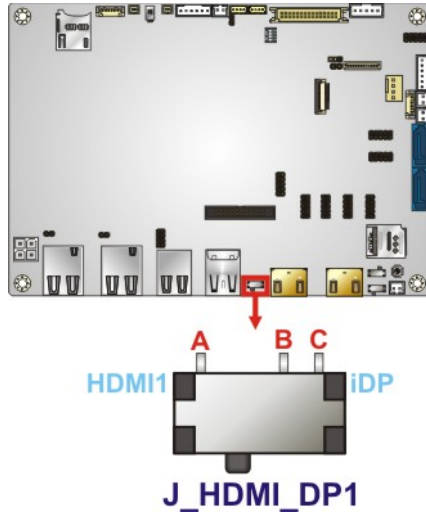

Figure 4-16: HDMI/DP Selection Switch Location
- CN Location:** See **Figure 4-16**
The location of the HDMI/DP selection switch is shown in **Figure 4-16**.